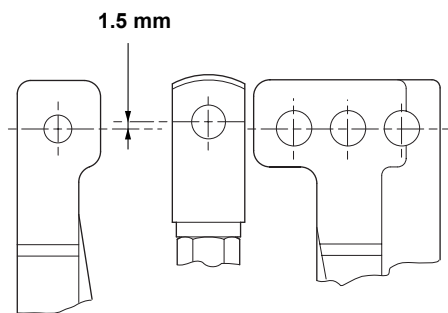

Figure 20 - Plug stem pre-adjustment
- 1.5 mm above the alignment of the pin holes in the actuator bracket (108) for the VariPak 28002 adjustable- C_v valve (see figure 20).